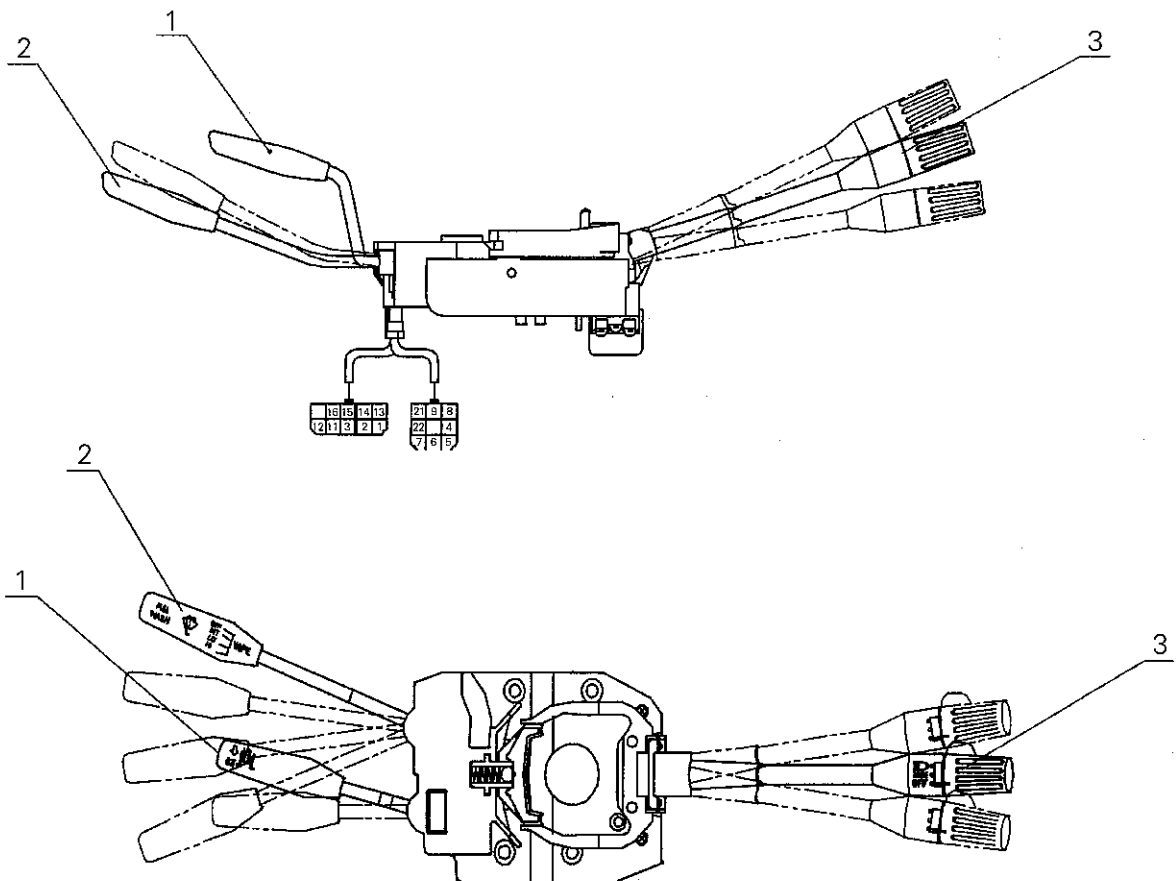

Fig. 3—4 Combined switch
(18) Ammeter (No. 26 in Fig. 3—1)
(19) Engine diagnosis switch (No. 18 in Fig. 3—1)
When trouble occurs in engine, engine trouble indicator lamp (No.14 in figure 3—2) will light, press down this switch and observe the flashing numbers of engine diagnosis indicator lamp carefully, then find out and remove the trouble according to the operation manual or contact professional maintenance technician.
(20) Combined Switch (No. 28 in Fig. 3—1)
Refer to Fig 3—4 for combined switch.